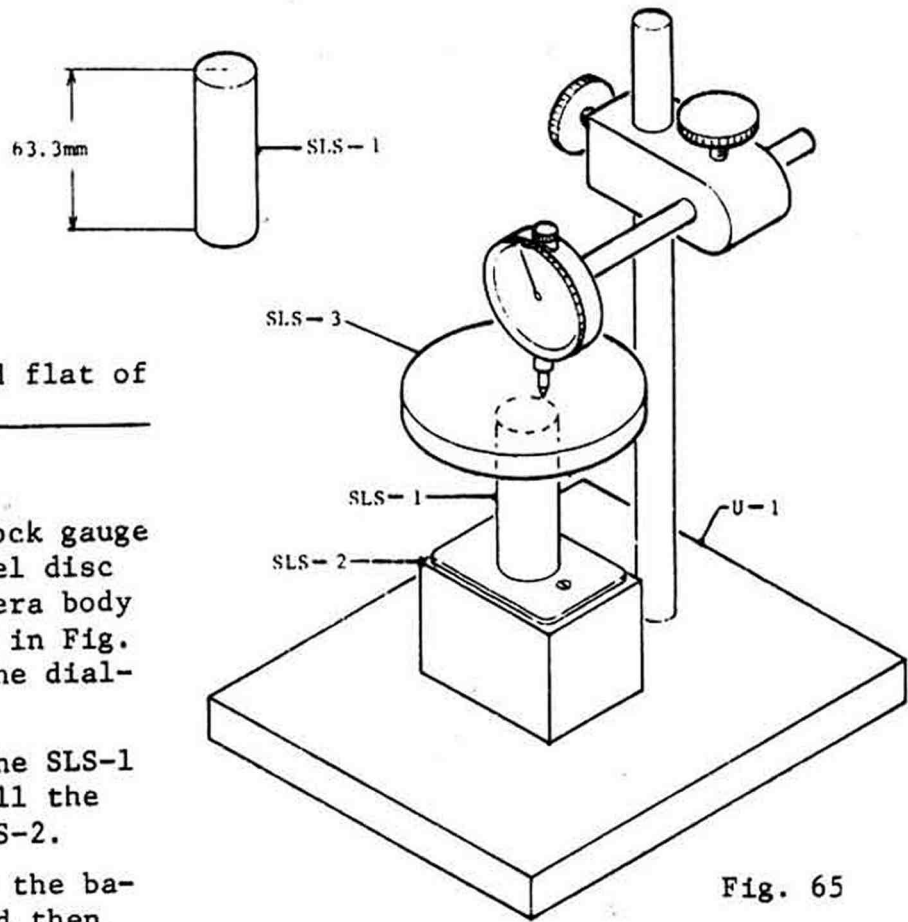

Fig. 65
- 1) Put the SLS-1 Block gauge and SLS-3 Parallel disc on the SLS-2 Camera body support as shown in Fig. 65 and the set the dial-gauge to Zero.